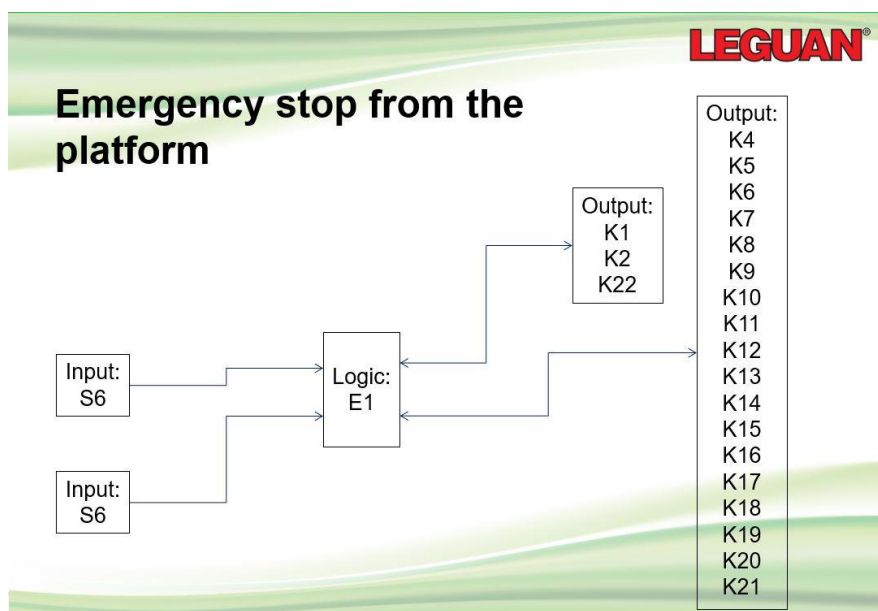

Figure 33 Emergency stop from the platform
- Disconnect all contacts of the logic controllers (Figure 33). Connect the earth terminal of the welding device directly to the part to be welded.